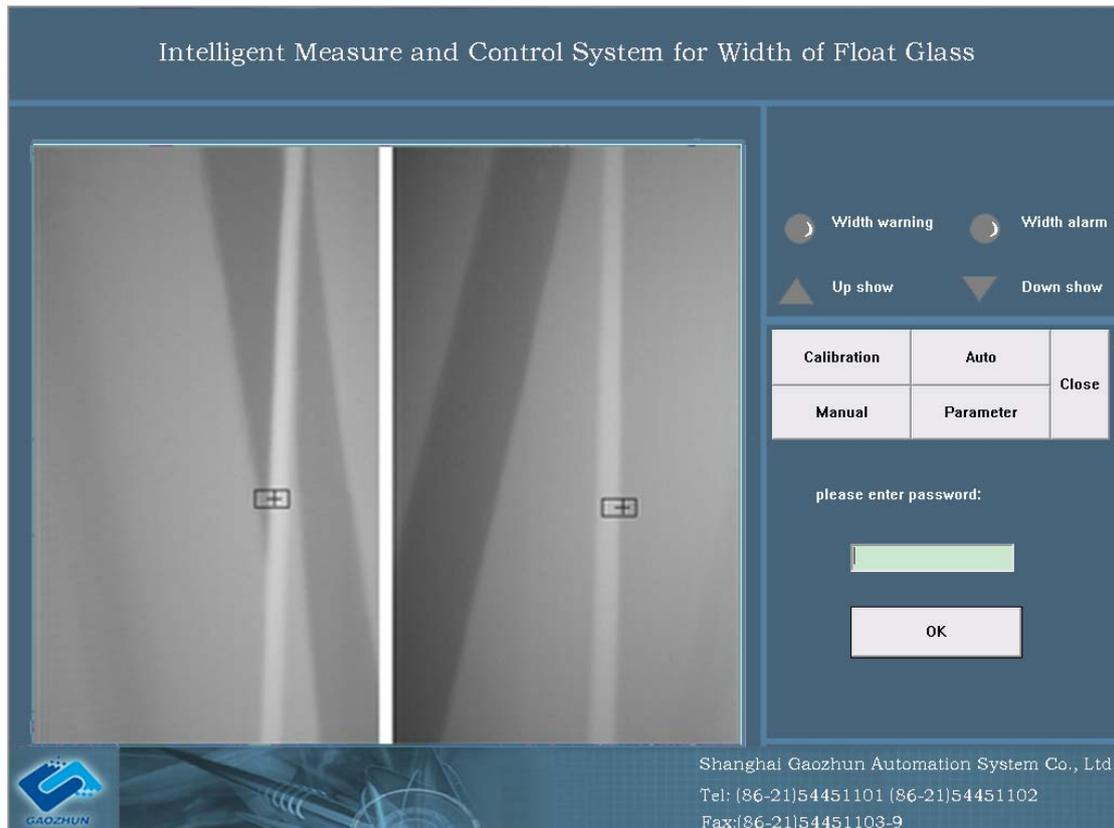

Fig. 10 Exit Interface
5.7 When use the left key of mouse to click the exit button, it will enter the exit interface, shown in Fig. 10.